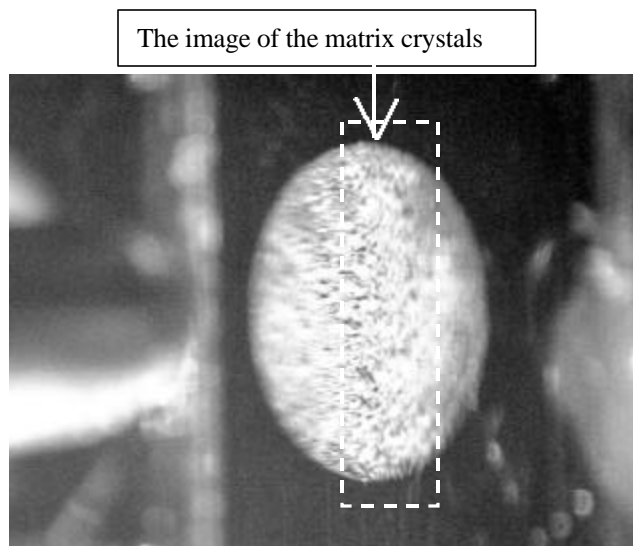
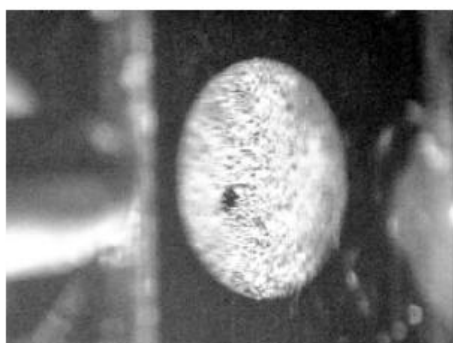

Fig. 39
Fig. 40
By comparing Figures 40, 41 and 38 we can see that the laser focus is close to its ideal position, but slightly below and to the left. The deviation of the focal point shown in Figures 40 and 41 is acceptable, but the source sensitivity can possibly be improved by fine tuning.
Step 3. Move the target plate to a fresh spot, like in Step 1 (Fig. 39). If you follow the procedure, you can continue with the same spot that was used for the laser spot position determination (Figs. 40, 41). Switch ON the laser at maximum power (minimum attenuation). Using a hexagonal screwdriver 3/32" turn the allen screw (see Fig. 42).